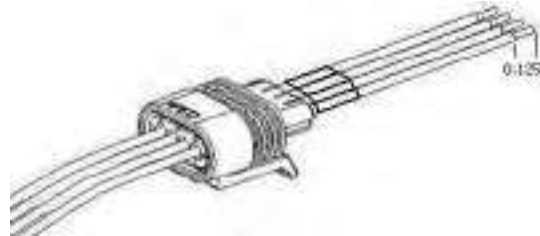

Figure 56
- g. Strip 0.125 ± 0.01 in. (3.16 ± 0.25 mm) of insulation from the end of each wire as shown in Figure 56.